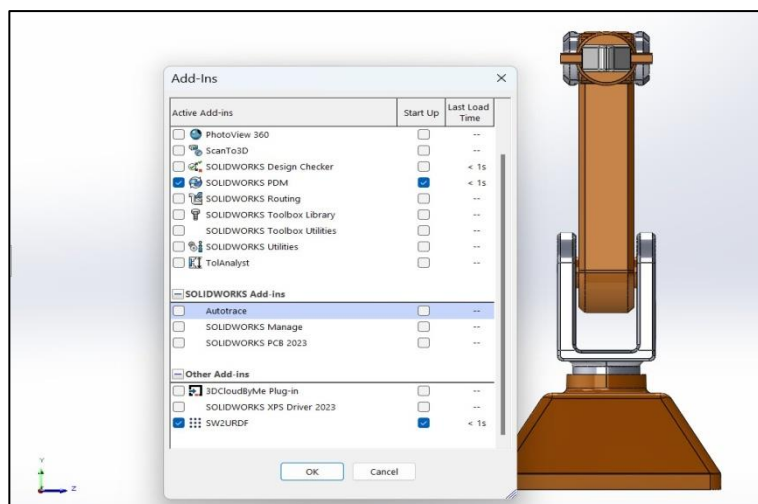

Fig. 3: SW2URDF tool on Solidworks
- Install and configure the "sw2urdf" tool: Make sure the "sw2urdf" tool is installed and configured in your SolidWorks environment. Typically this involves downloading a script/tool from a trusted source and following the installation instructions as shown in Fig 3.